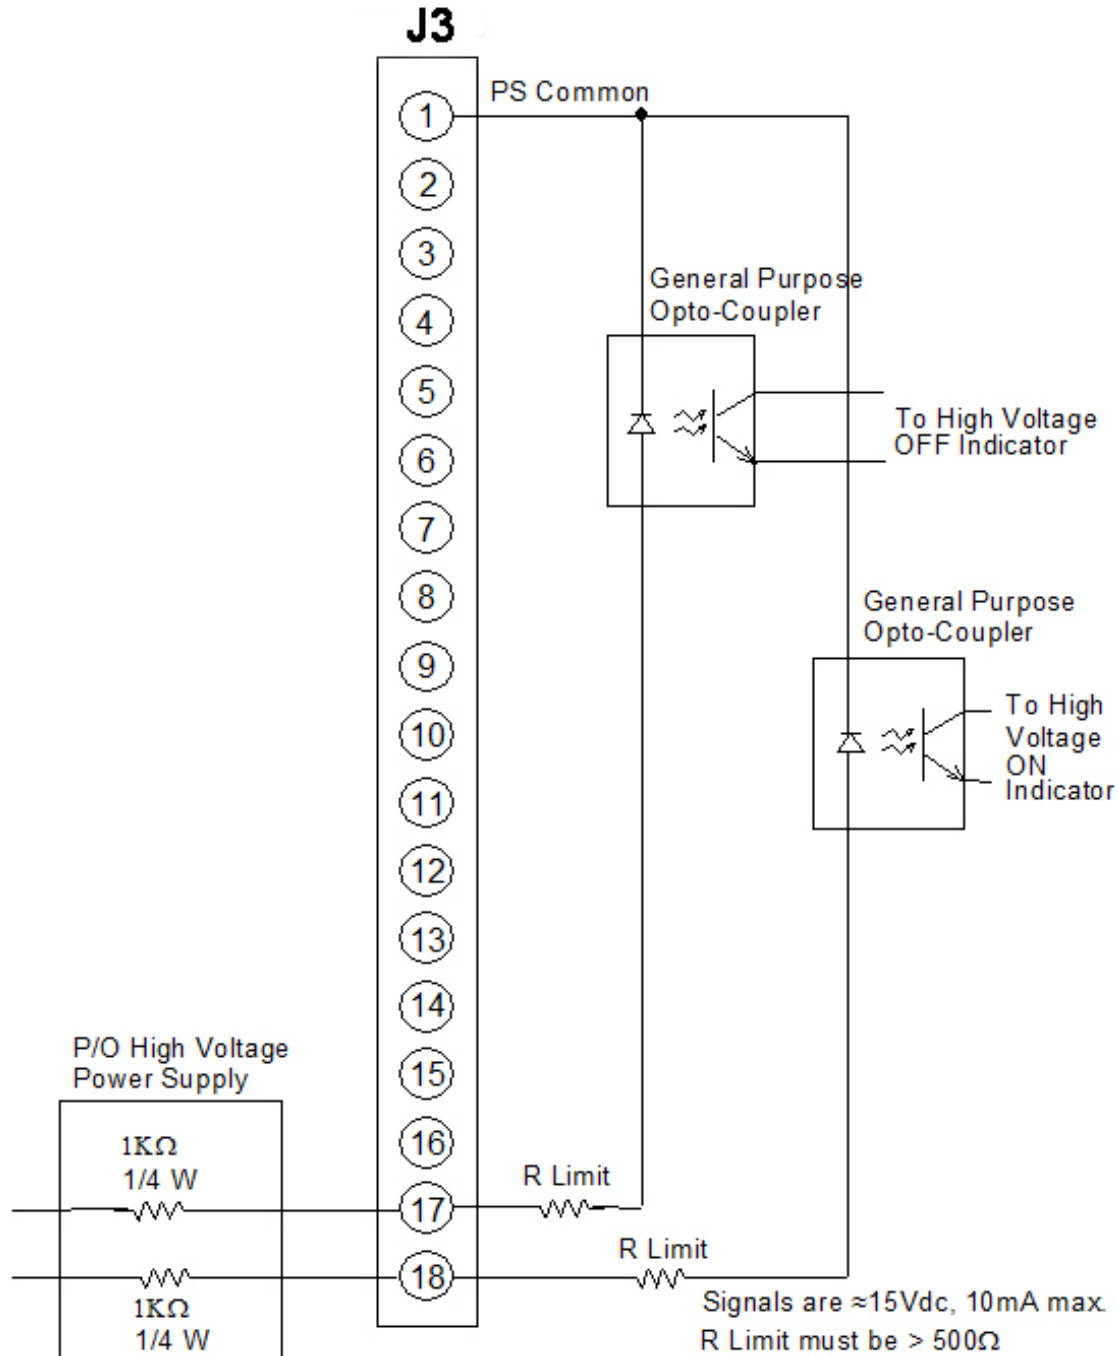

Figure 3.7 -- Remote High Voltage On and Remote High Voltage off Indicator
- **REMOTE HIGH VOLTAGE ON & REMOTE HIGH VOLTAGE OFF:** Signals are provided for remote monitoring of the HIGH VOLTAGE ON and HIGH VOLTAGE OFF status. See Figure 3.7 on page 16 for recommended interface.